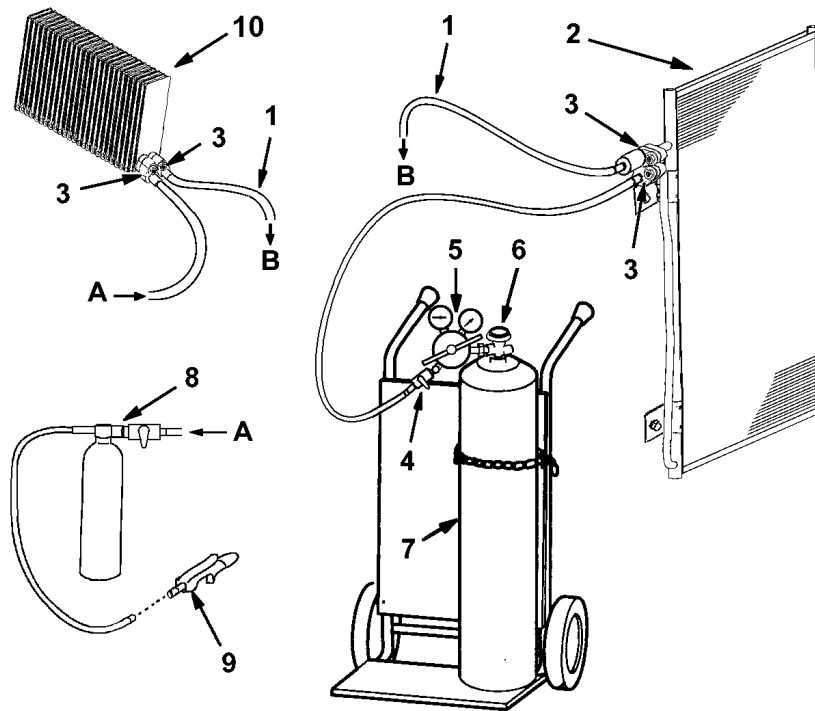

Figure 43 Typical Flushing and Purging Setup
Refer to Figure 43.
2. With the tank regulator (5, Figure 43) turned off (closed), open the main nitrogen tank valve (6), and using the input gauge on the regulator, verify that enough pressure is available to perform the flushing procedure.
3. Connect the input of the flush gun (8) to the output of the supply line from the nitrogen tank. Some form of shutoff valve should be installed at the input of the flush gun.
4. Using the correct fittings or block fitting adapters (3), connect the drain line (1) to the component to be flushed. Components are flushed in the opposite direction of normal refrigerant flow.
8. Set the supply line air regulator (5) to 75 psi.
9. Open the supply line valve (4) at the output of the tank regulator.
10. Slowly open the flush gun valve and allow the flushing solvent to flow through the system until the drain line is clear; then, close the flush gun valve. If a trigger type air gun (9) is being used on the flush gun output, actuate the trigger to release all pressure from the flush gun tank.
11. Close the supply line valve (4).